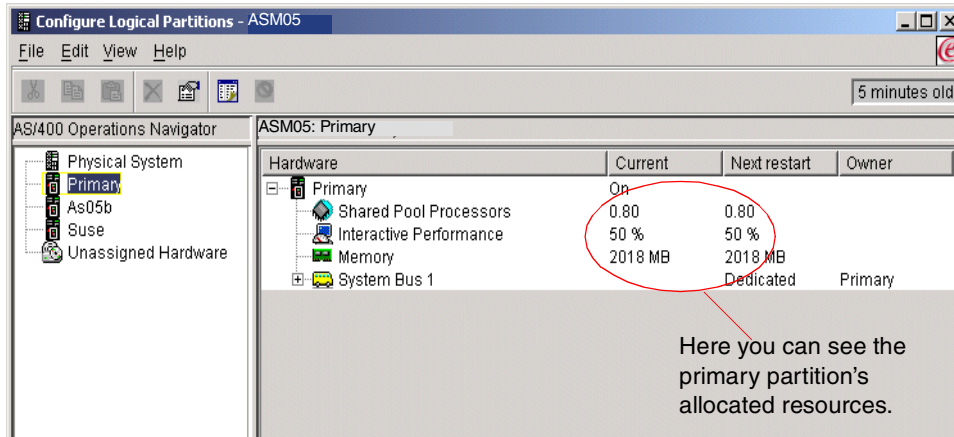

Figure 8-5 Configure Logical Partitions display: Selecting Primary
- Click the **Primary** system. This shows you the resources available in the primary partition (see Figure 8-5). The primary partition currently has 0.80 shared processing units, 50% of the systems interactive performance, and 2018 MB of main memory.